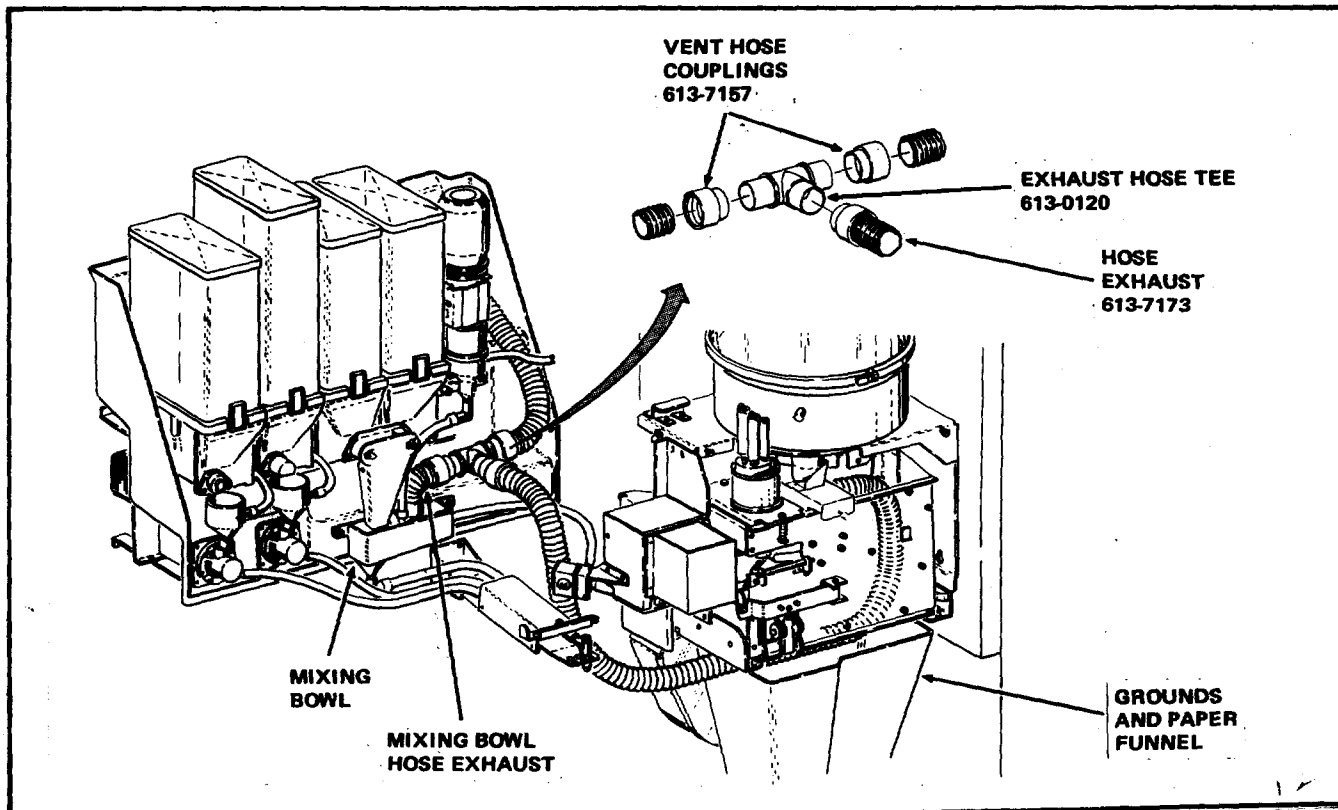

FIGURE 12
1. Cut the Mixing Bowl Hose Exhaust 5 inches from the end that connects to the Mixing Bowl. See Figure 12.
2. Screw the two Vent Hose Couplings, Part Number 613-7157, included in the Kit, in both ends of the Mixing Bowl Hose Exhaust where the cut was made. See Figure 12.
3. Fit the Exhaust Hose Tee, Part Number 613-0120, included in the Kit, on the Vent Hose Couplings installed in Step E-2. See Figure 12.
4. Remove the Grounds and Paper Funnel from the Merchandiser. See Figure 12.
5. Install the Hose Exhaust, Part Number 613-7173, included in the Kit, in the Merchandiser by fitting one end of the Exhaust Hose on the Exhaust Hose Tee and the other end on the Exhaust Bushing of the Housing Assembly. See Figure 12.
6. Install the Grounds and Paper Funnel removed in Step E-4 in the Merchandiser. See Figure 12.